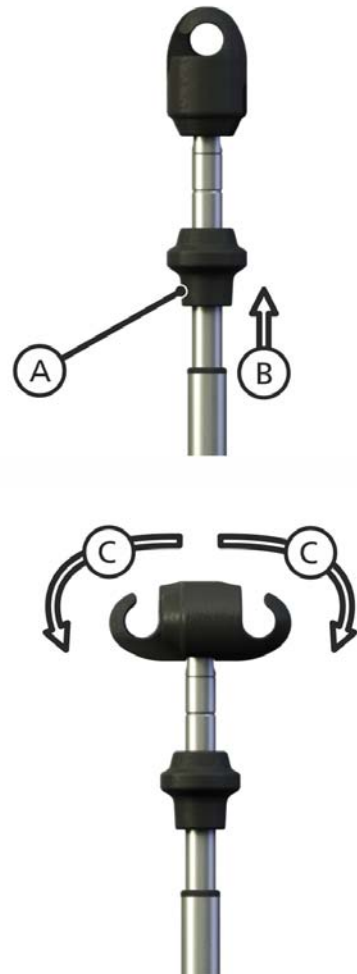

Fig. 16
To adjust the height of the transfusion pole, as illustrated in Fig.16; grasp the locking mechanism (A) and using your thumb, lift the mechanism to release the lock and move the pole up or down to the required height (B); release the mechanism to lock the pole in position.